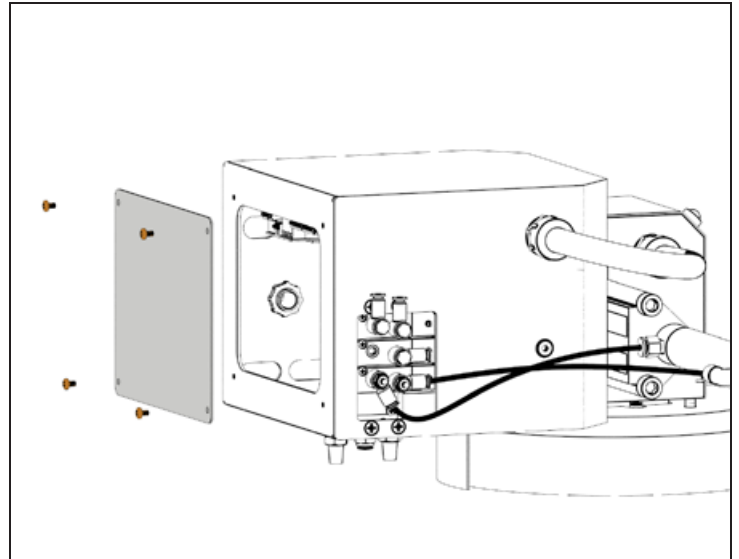

Figure 8
6. From the ATC's motor enclosure, on the access plate, use a Phillips screwdriver to remove four M4 x 6 mm screws (see **Figure 8**).